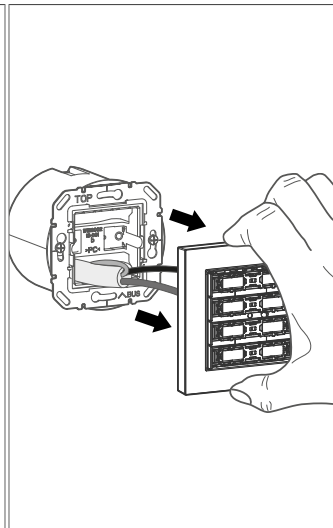

Fig. 21: Removing the device from the supporting ring
- 3 Remove the push-button module from the supporting ring. Hold on to the design frame (see Fig. 21).